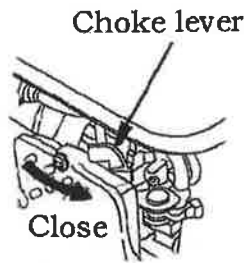

Fig. 7
2. Push the choke lever to the CLOSE position (Fig.7).